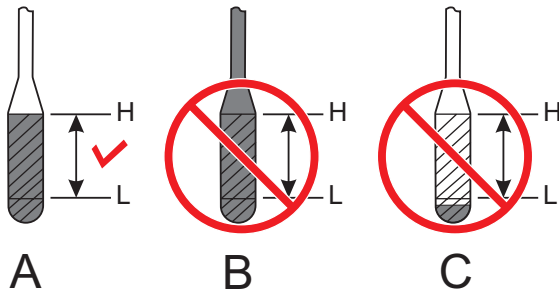

Figure 10. Engine Oil Dipstick
3. Re-insert oil dipstick then remove oil dipstick from its holder. Check the oil level shown on the dipstick (Figure 10).